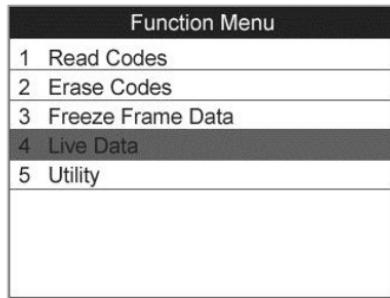

Figure 10.2
- 1) From the function menu (Figure 10.2) use the **UP/DOWN** scroll button to select **Read Codes** and press the **OK** button.
- 1) From the function menu (*Figure 10.2*) use the **UP/DOWN** scroll button to select **Erase Codes** and press the **OK** button.
- 1) From **Function Menu** (*Figure 10.2*) use the **UP/DOWN** scroll button to select **Freeze Frame Data** and press the **OK** button.
From the function menu (*Figure 10.2*) use the **UP/DOWN** scroll button to select **Live Data** and press the **OK** button.
From the function menu (*Figure 10.2*) use the **UP/DOWN** scroll button to select **Utility** and press the **OK** button. The scan tool displays function menu as below.